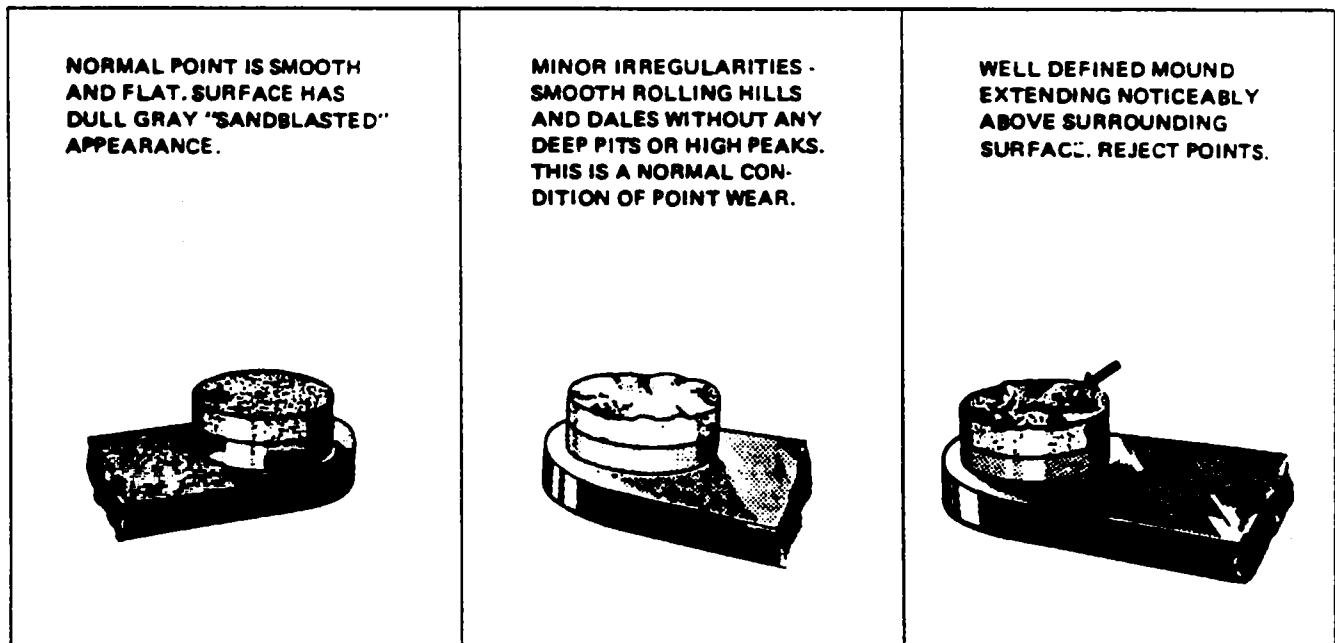

Figure 74-2. Contact Points
5. Remove the breaker cover and harness securing screws and nuts, and separate cover from magneto housing. Check contact assemblies to see that cam follower is securely riveted to its spring. Examine the contact points for excessive wear or burning. Figure 74-2 shows how the average contact point will look when surfaces are separated for inspection. Desired contact surfaces have a dull gray, sand-blasted (almost rough) or frosted appearance, over the area where electrical contact is made. This means that points are worn in and mated to each other, thereby providing the best possible electrical contact and highest efficiency of performance.
6. Minor irregularities or roughness of point surfaces are not harmful. (Refer to Figure 74-2 center.) Neither are small pits or mounts, if not too pronounced. If there is a possibility of pit becoming deep enough to penetrate pad. Figure 74-2, right, reject contact assembly.